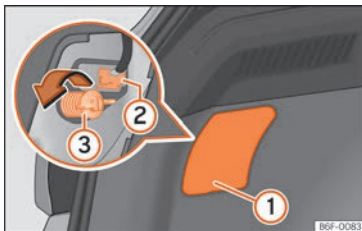
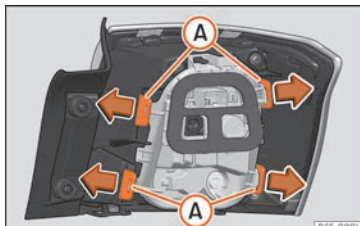

Fig. 51 Luggage compartment: access to the bolt securing the tail light unit.
Fig. 52 Retaining tabs on reverse side of tail light.
- Remove the lid, levering the flat side of a screwdriver into the recess »» Fig. 51 ①.
- Remove the bulb connector ②.
- Unscrew the light securing bolt ③ by hand or using a screwdriver.
- Remove the bulb holder unlocking the retaining tabs »» Fig. 52 A.